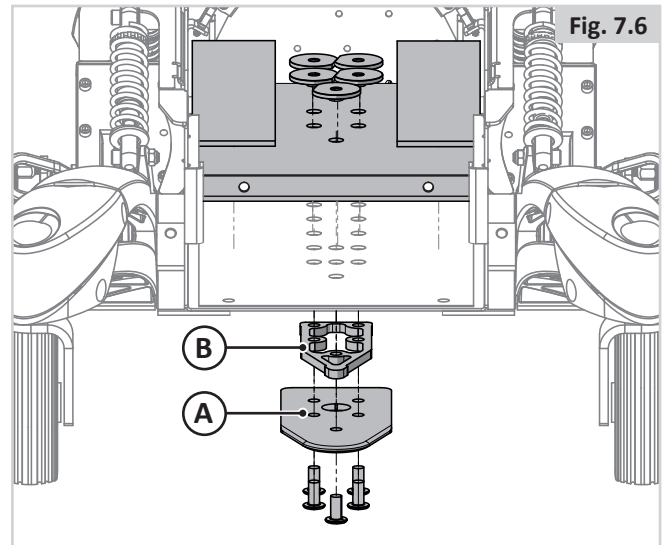
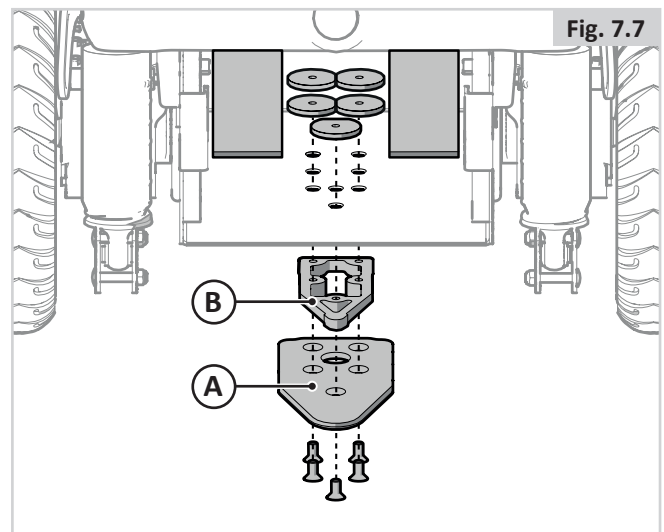

Fig. 7.6
Fig. 7.7
1. Fit the 8 mm spacer (B) onto the lock plate (A) (Fig. 7.6 for MWD, RWD & FWD, Fig. 7.7 for Hybrid base).